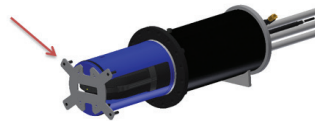

Figure 56
5.0.14) Once the cartridge has been inserted to this point, the cartridge alignment plate may be mounted to the bottom of the cartridge with the 3/8" alignment pins fully inserted into the gate housing and the plate flush with the bottom surface of the gate housing (see Figure 56).